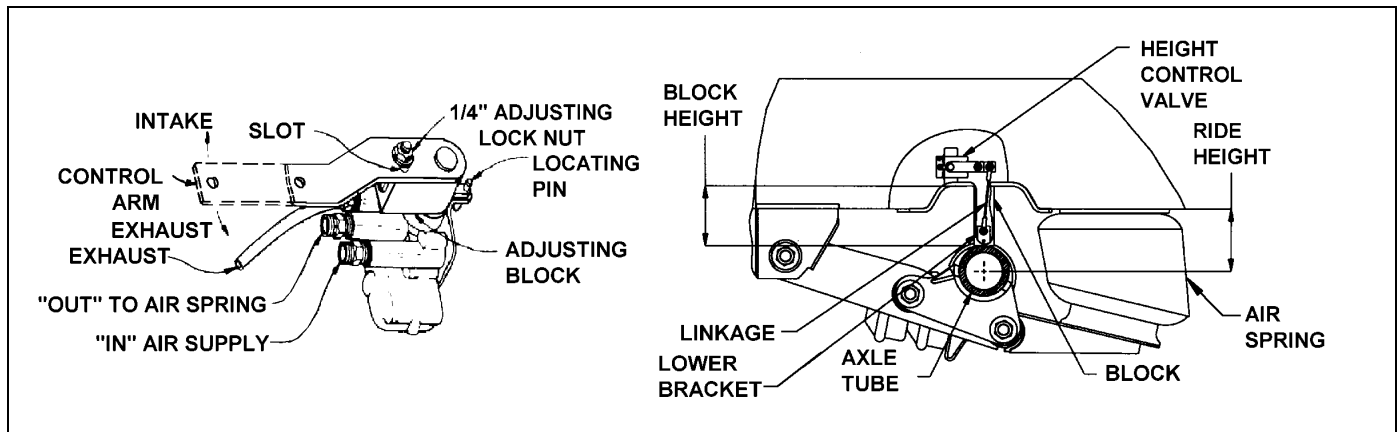

Figure 4-9: Air Ride Height Adjustment
(See Figure 4-9 for parts identification.)
2. Disconnect linkage at the control arm and raise control arm to the "up" position, raising the trailer until a block can be placed between axle tube and undercarriage frame (See Figure 4-9.)
6. Loosen the 1/4" adjusting lock nut located on the adjusting block, allowing the control arm to move approximately 1 inch. Move the adjusting block until holes align, then insert locating pin. (See Figure 4-9.)